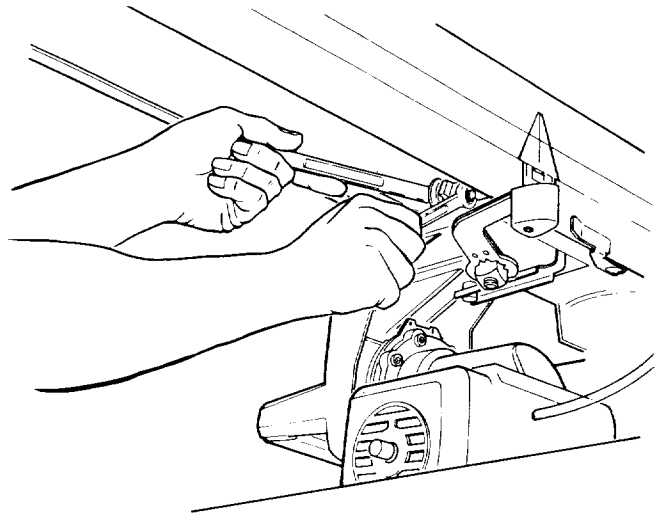

Fig. 129 - Location of Hex Nut
2. To adjust the bearing, use a 9/16 inch wrench to hold the bolt head while using a 1/2 inch wrench to loosen the hex nut. (Figure 129)